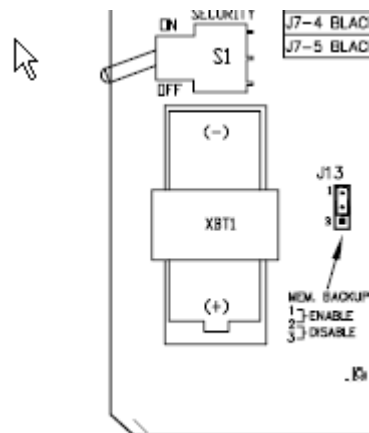

Figure 85: Memory backup enable/disable
2. Locate the enable/disable jumper for the lithium backup battery. Located on the lower left-hand side of the board (Figure 85).